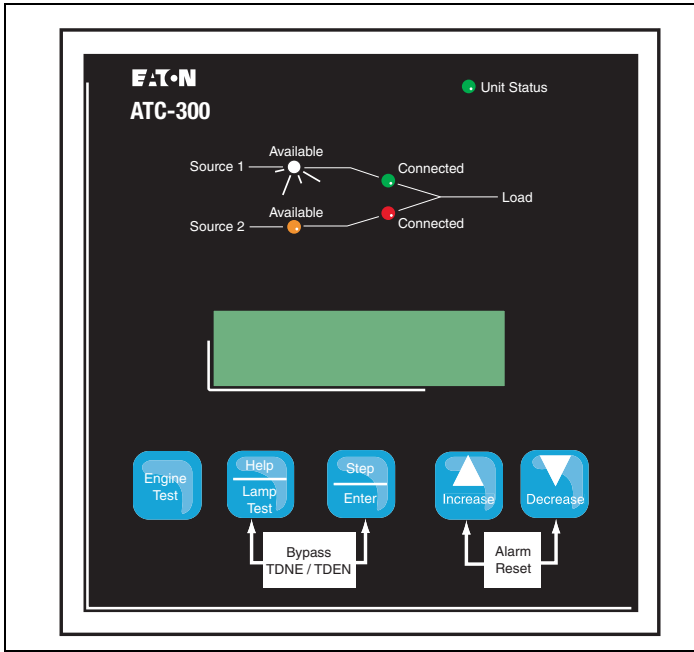

Figure 41. ATC-300 Logic (Utility Supplying Load)
- Step 5:** Apply Utility (Source 1) power. If the switch is properly applied for the system voltage ordered, the display should work and the Source 1 Available white LED should light (Figure 41). Using a voltmeter, check for proper system voltage on Source 1 and load terminals. Check all phases on a 3-phase switch. Voltage measurements should be taken phase to phase and phase to neutral.